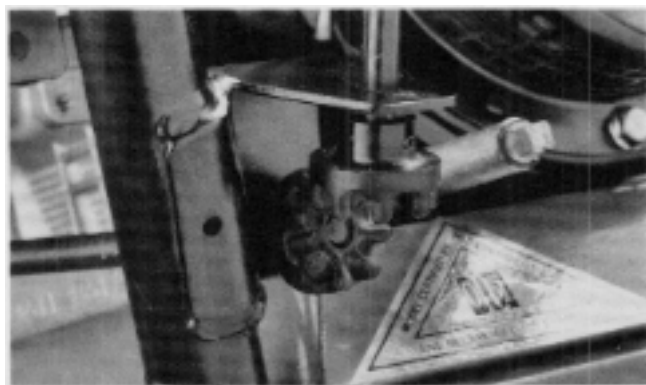

Figure 110
12. Insert the chute control rod down through the top of the chute control bushing and insert into the lower chute rod bracket. Assemble the chute rod gear as shown in Figure 110.